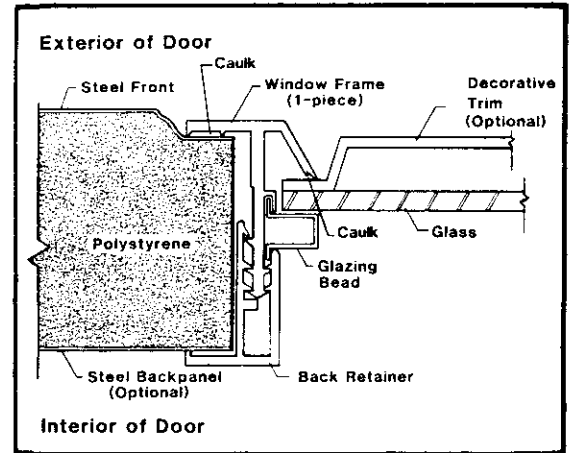

FIGURE 4
6. For insulated doors, press Glazing Bead into combination Window Frame/ Back Retainer Assembly. See Figure 4.